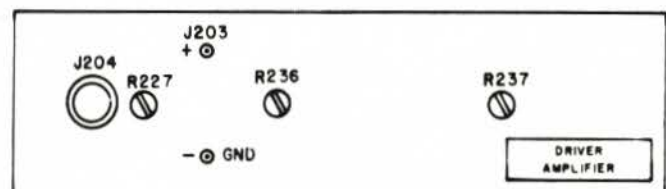

Figure 4. Driver Amplifier, Rear View
c. Locate the +80V ADJ control R236 at the Driver Amplifier rear. See figure 4.